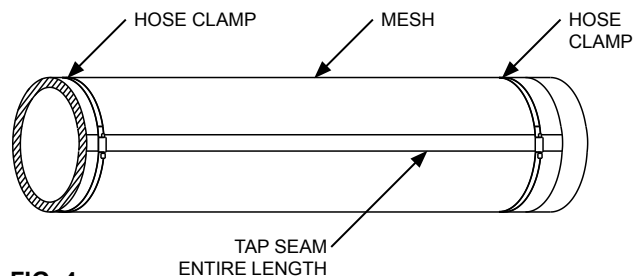

FIG. 4
Step 6: Apply foil tape along the entire length of flex liner. Unroll the mesh and slip it around the outside of insulation starting at the bottom end. Pull the mesh up the liner to the top end. Secure mesh to flex liner at bottom with a hose clamp (See FIG. 4). Pull mesh towards top end until it is tight against the insulation and secure with hose clamp.